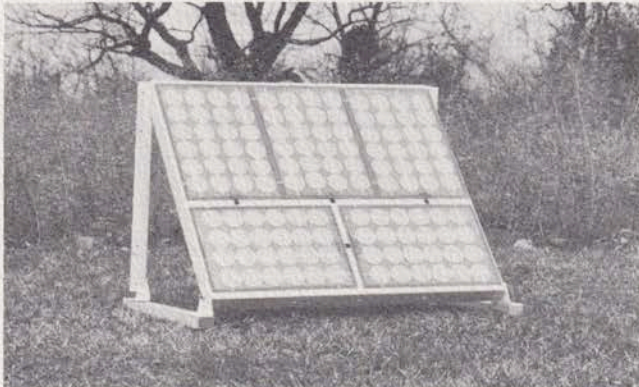

Fig. 5 25 Watt Array of Type 950 Unipanel —
- 6 Volt and 9 Volt Unipanel—contain 16 and 24 solar cells respectively, connected in series (Fig. 5)